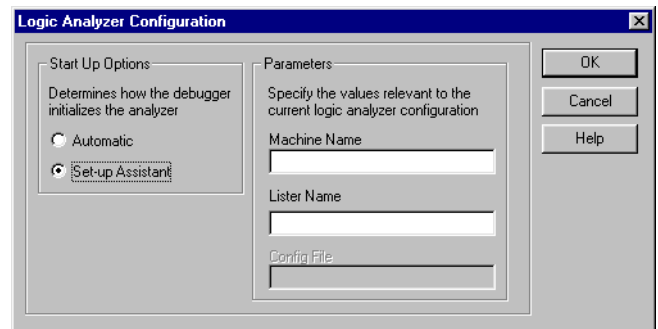

Figure B-19 Logic Analyzer Configuration dialog box
14. Click **Configuration** to display the Logic Analyzer Configuration dialog box (Figure B-19).